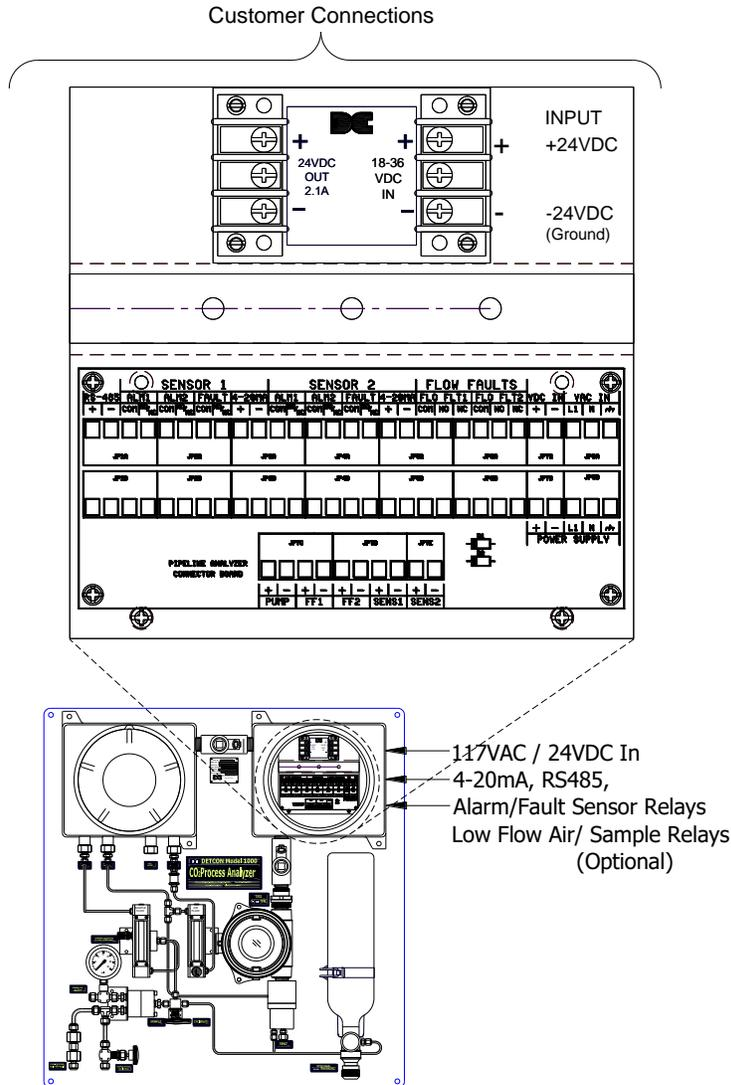

**Figure 10** Unit Overview (Ir-640 0-15% with Air Dilution shown)
1. Install a length of tubing from the desired sample point to the sample inlet port as shown in Figure 10. Sample draw tubing should be 316 stainless steel of 1/4" O.D.